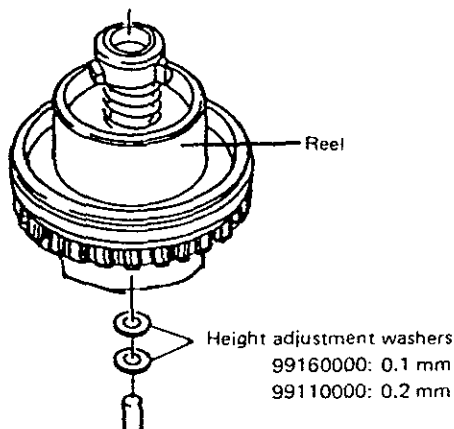

Fig. 16 Washers for height adjustment
4. If it is necessary to adjust the height, add or subtract the required number of height adjustment washers as shown in Fig. 16.